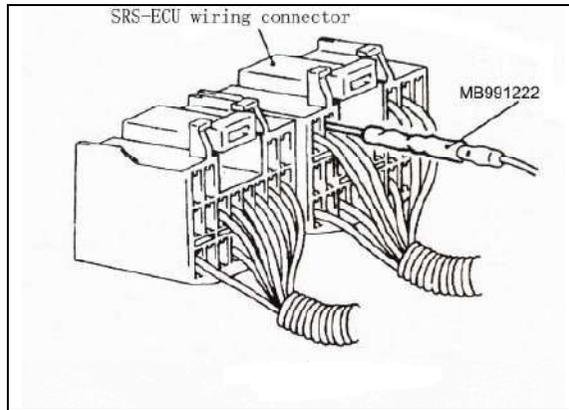

Fig 19-6
8. Inspection of the SRS-ECU harness connector should be carried out by the following procedure.(See fig 19-6,fig19-7)